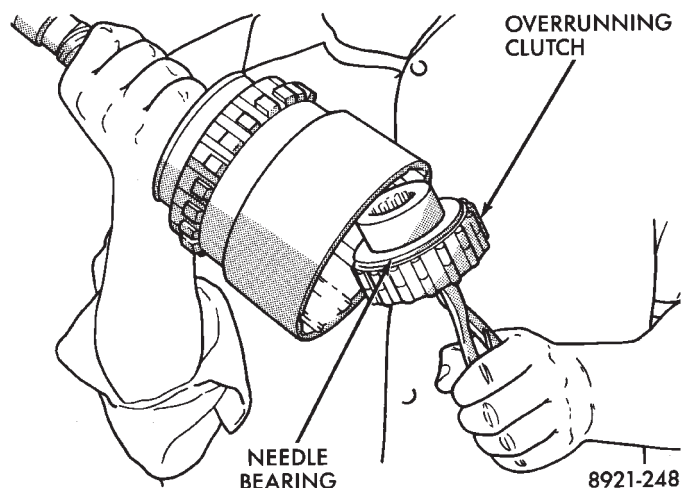

Fig. 268 Overrunning Clutch Assembly Removal/Installation
(3) Remove overrunning clutch assembly with expanding type snap ring pliers (Fig. 268). Insert pliers into clutch hub. Expand pliers to grip hub splines and remove clutch with counterclockwise, twisting motion.